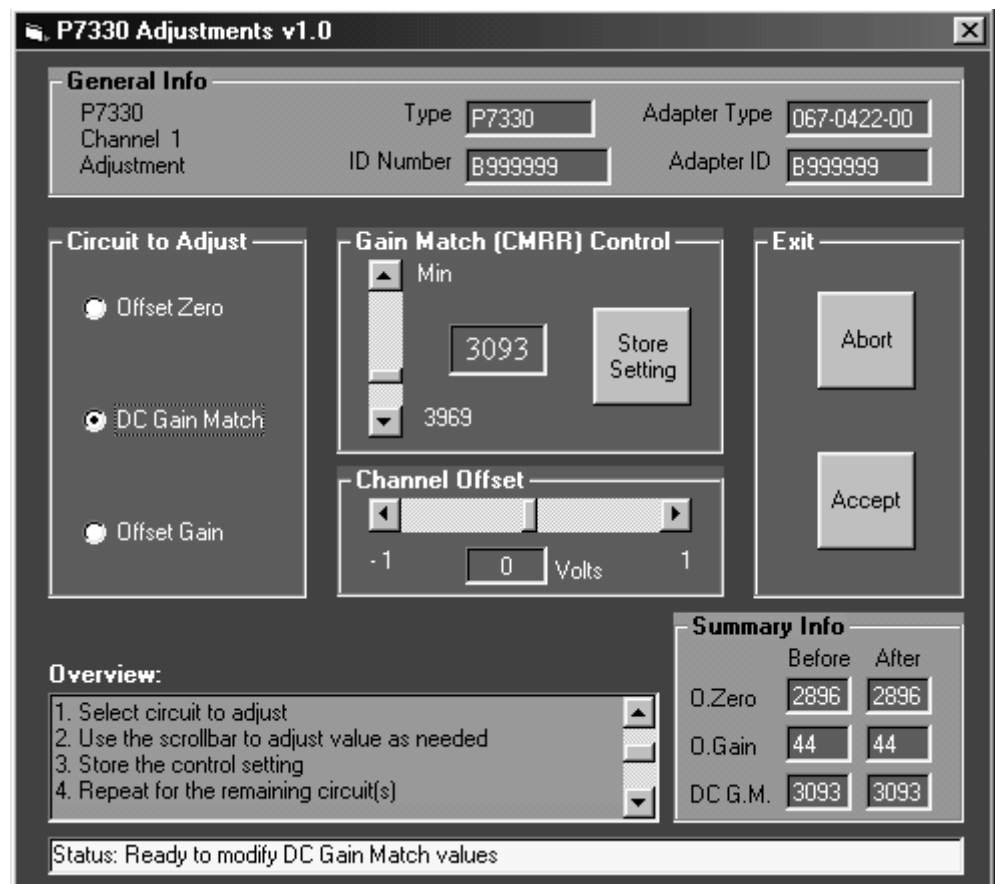

Figure 14: DC Gain Match window
1. Click DC Gain Match in the application window. See Figure 14.